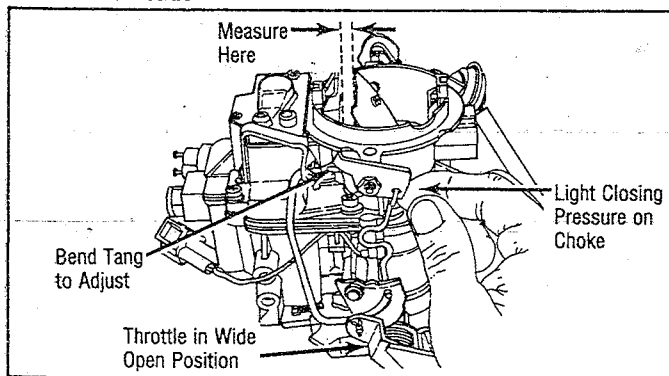

Fig. 5 Choke Unloader Adjustment
- Place throttle lever in wide open position. Lightly press on choke lever with finger to move choke valve toward closed position. See Fig. 5.